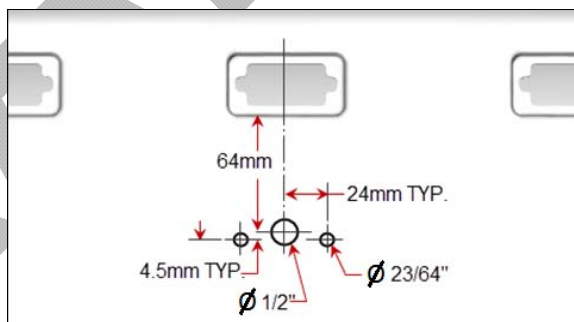

Figure 15
25. On the vehicle rear panel, drill 3 holes as shown in Figure 15. Use drill $\varnothing 3/16"$ for predrilling.